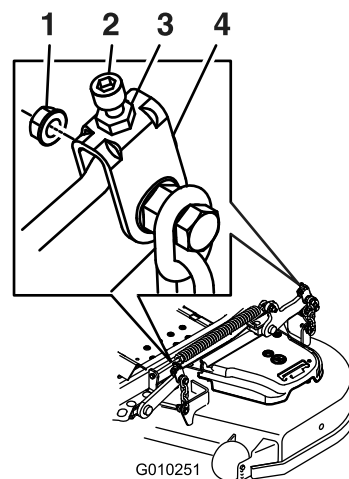

**Figure 94**
10. For mower decks shown in Figure 94, fine-tune the adjustment nut on the front deck lift assembly by turning it (Figure 94).
17. Fine-tune the adjustment nut on the front deck lift assembly by turning it (Figure 94).